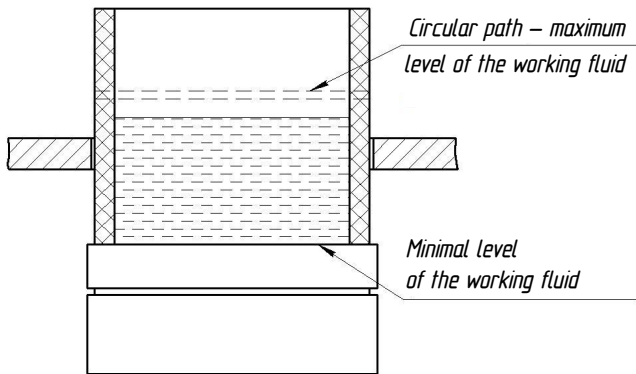

Figure 6. Checking the working fluid level
6.5 Pour the working fluid into the bucket to a level not exceeding the maximum (Fig. 6).